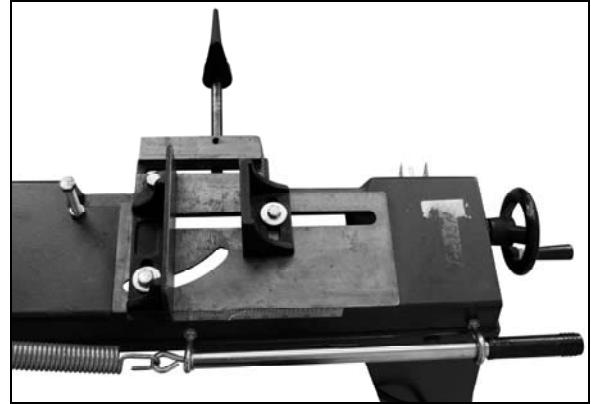

Figure 16
4. For cuts where the work will not extend beyond the table, the bolt (A) (see Fig.16) on the stop can be adjusted to contact the work-piece.